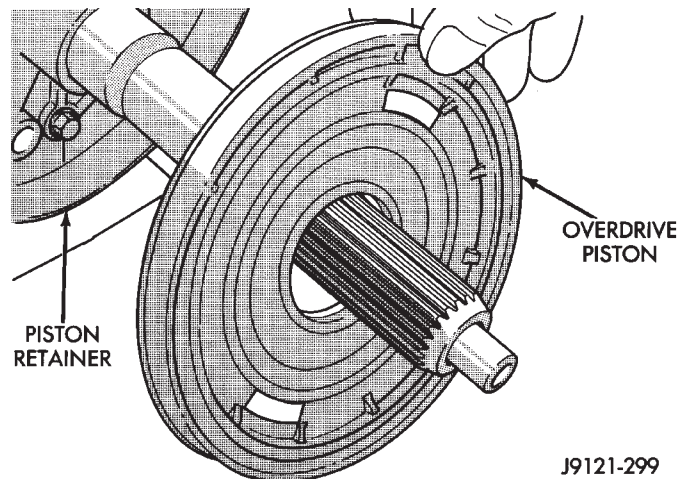

Fig. 3 Removing Overdrive Piston
(3) Remove overdrive piston from retainer (Fig. 3).